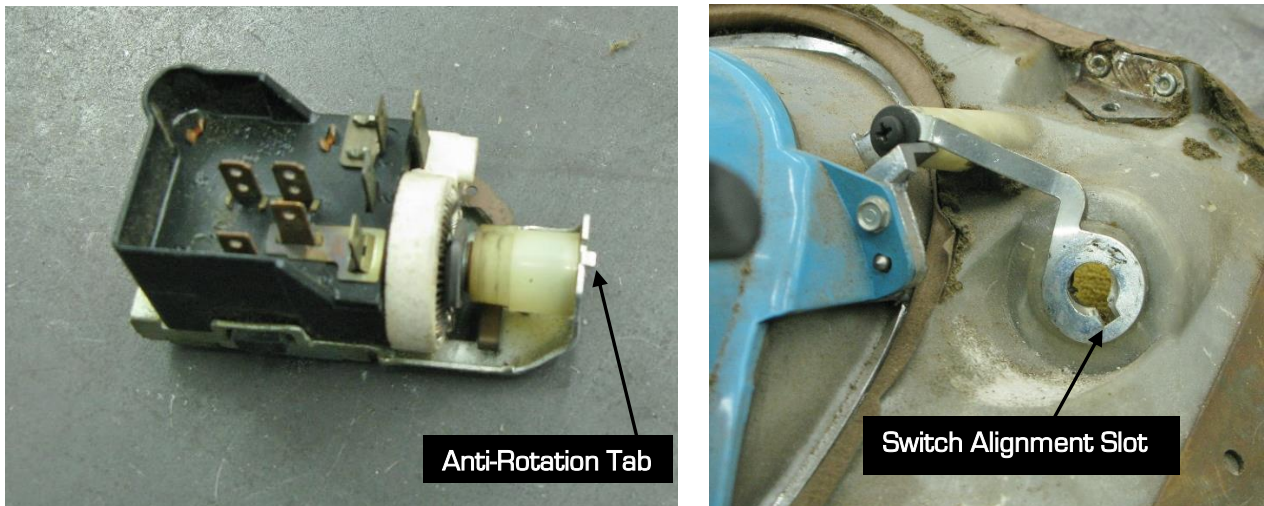

Figure 43 – Install Headlight Switch
44. Remove the headlight switch knob and reinstall the headlight switch into the dash. **NOTE:** Make sure the anti-rotation tab on the switch lines up with the alignment slot on the dash (Figure 43). Install the headlight switch retaining nut and install the headlight switch knob.